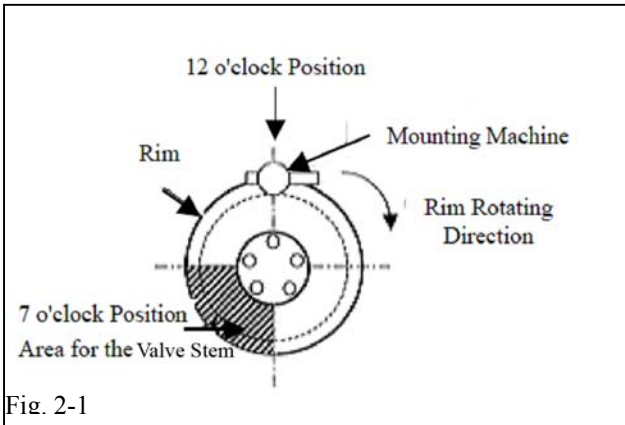

Fig. 2-1
- (b) Position the wheel on the mounting machine with the valve stem at ~ 7 o'clock position (shaded area in Fig. 2-1).
- (1) Mount/dismount head is considered as 12 o'clock Position.